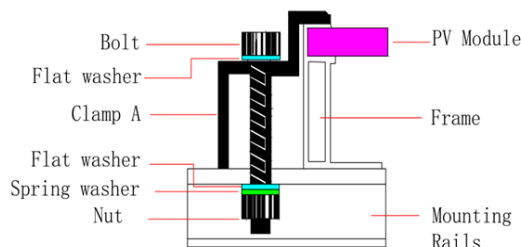

figure4
- Clamp material should be anodized aluminum alloy or stainless steel. The mounting details are shown in the following *figures4* and *figures5*.